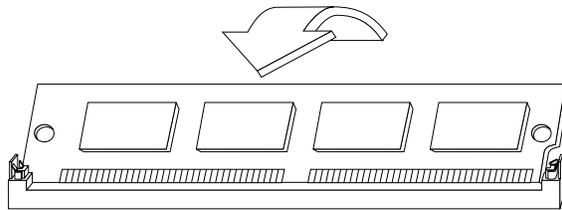

Figure 3-4 Tilting Up the SIMM to a Vertical Position
- Tilt the SIMM up into a vertical position, as shown in Figure 3-4. There should be a slight click when the SIMM reaches the vertical position as the metal latches snap up around the SIMM. The SIMM is positioned correctly when the latches on both sides of the SIMM socket are hugging the edges of the SIMM.